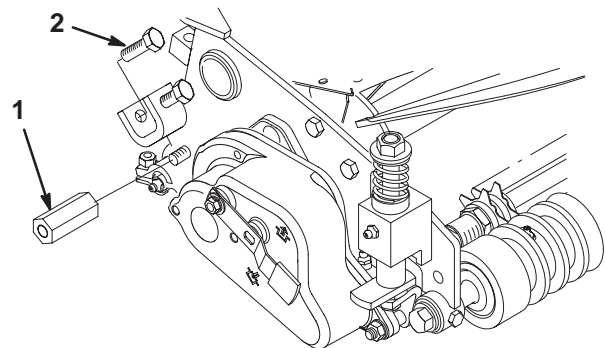

Figure 3
4. Thread a hex extension onto the carriage bolt (Fig. 3). Tighten the hex extension securely against the cutting side plate.
Note: On cutting unit models 04470, 04471, 04480 and 04481 only, remove the lower bedbar adjuster bolts and install new special bolts reversed as shown in Figure 3. The bedbar may have to be removed to install the new special bolt.